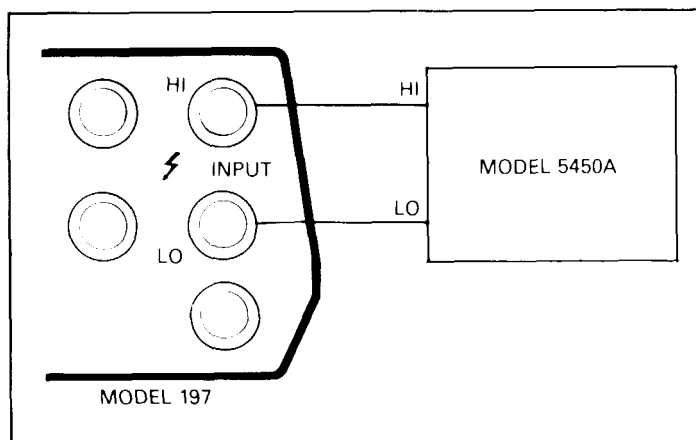

Figure 5-6. 200k, 2M and 20M Two Wire Resistance Calibration
9. Repeat steps 7 and 8 for the 200k, 2M and 20M ranges using Table 5-4 as a guide. For these ranges use the configuration shown in Figure 5-6.